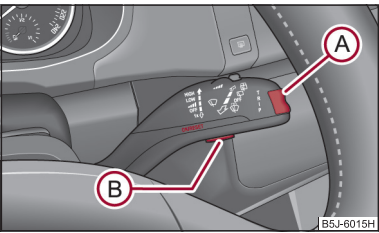

Fig. 20 Multi-functional indicator: Control elements
- Press button **(B)** ⇒ **fig. 20. Speed warning 50 km/h** is displayed in the information display*. You can increase or reduce this value with the aid of the button **(A)**.
If you now exceed the set speed limit, **Speed 50 km/h exceeded** will be shown on the display. This text is shown until you lower the speed below the set limit or you switch off the displayed text with the button **(B)** ⇒ **fig. 20**.